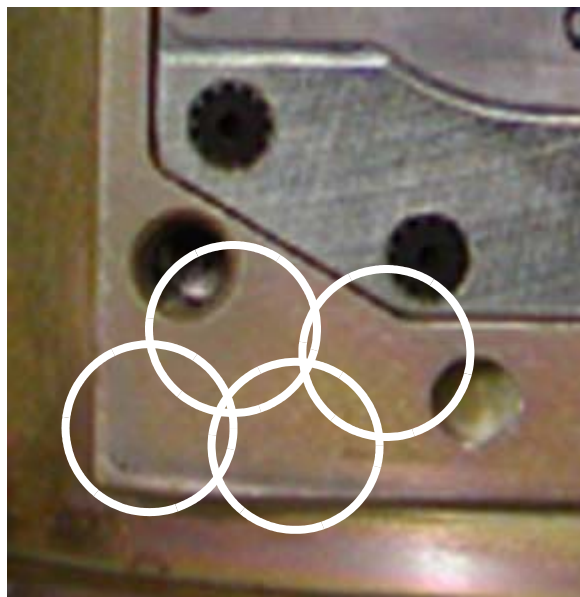
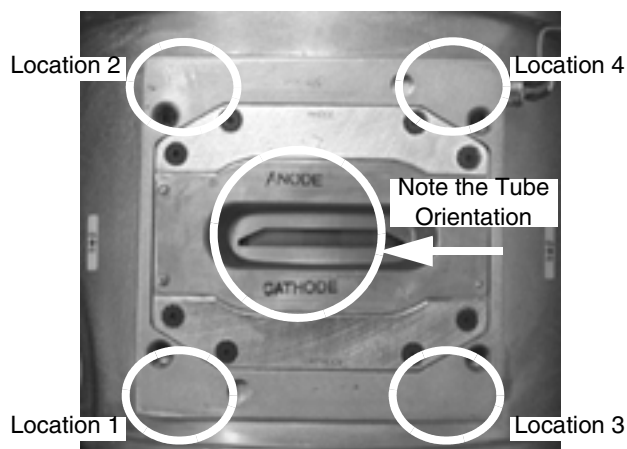

Figure 13 - Location of 4 hardness measurements
Figure 14 - Locations of measurements
Figure 13 below shows the locations of the four hardness measurements to be taken for each corner of the Tube casing plate as shown in Figure 14. Each circle represents the size of the hardness tool test port that is 20mm in diameter. The four locations are chosen to keep maximum space between readings.
- 2.) Identify Location 1 on the tube casing plate as shown in Figure 14.
- 3.) Place the tester in one of the measurement points as identified in Figure 13. All four measurement points shown in this figure will be taken to generate an average for the mounting hole location. The order of the measurements next to a mounting hole is not important. Make sure the tester is held steady and flat on the surface of the tube during the test. See Figure 17 (w/TH130) and Figure 18 (w/TH150), below to see how to hold the tester.
- 4.) Take the first measurement, then set the plunger as shown in step 1, and move the tester to another measurement point shown in Figure 13. Repeat this until all four measurements have been taken for mounting hole location 1.
- 13.) Take the readings written in this section and copy them to the data sheet (page 21). Make sure the readings recorded in the data sheet (page 21) match the locations shown in Figure 13. This data will be used by engineering for further analysis. Failure to properly document the data will confuse future analysis.